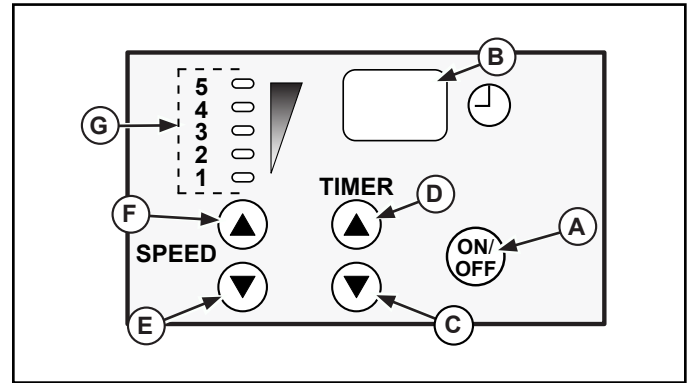

Figure 5. 7 Quart and 10 Quart Mixer Control Panel.
2. Select the desired operating speed based on the ingredients. Use the speed up (E) or speed down button (F) to program the speed. See Figure 5.
3. Set the time cycle, if desired by using the time up button (C) and time down button (D). The maximum time that can be set is 30 minutes.
4. To begin mixing cycle press the on/off button (A). The mixer will continue to operate until the on/off button (A) is pressed again. Or, the mixer will operate until the time cycle has been completed.